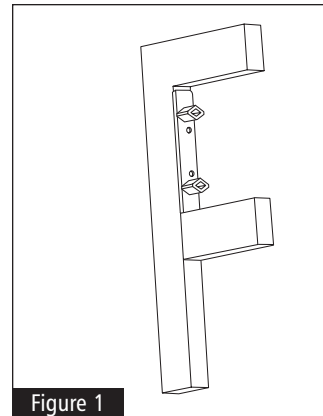

Figure 1
**1** Locate DDF Fastener Male on frame as shown. Place part against lower horizontal with the lip of the part overlapping the front edge of the frame. Drill pilot holes 3/32" diameter, 3/8" deep. Attach each part with 2 screws provided. See Figure 1.